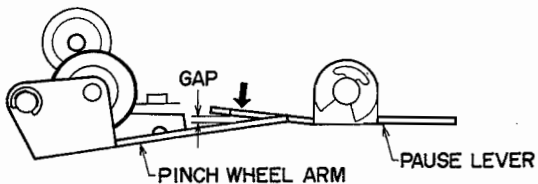

Fig. 11
2. PAUSE LEVER ADJUSTMENT (See Fig. 11)
Bend the part of pause lever indicated by arrow in Fig. 11 so that at playback mode the gap between the pinch wheel arm and pause lever is more than 0.5 mm.